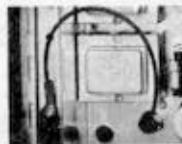

Figure 13
3. 26RJ8 Control Flame Signal Attenuator. Directly above the vacuum tubes on the chassis is a recessed pin, which when grounded to the chassis by a clip cord (Fig. 13), will reduce the sensitivity of the flame signal amplifier 40% for test purposes.